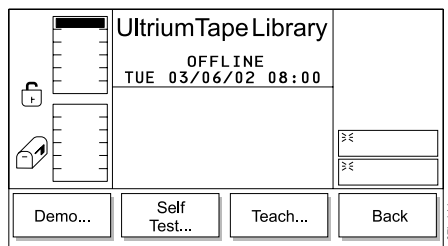

Figure 339. Exercise Submenu
4. Press the button below the **Exercise** softkey. The Exercise Submenu displays (see Figure 339).